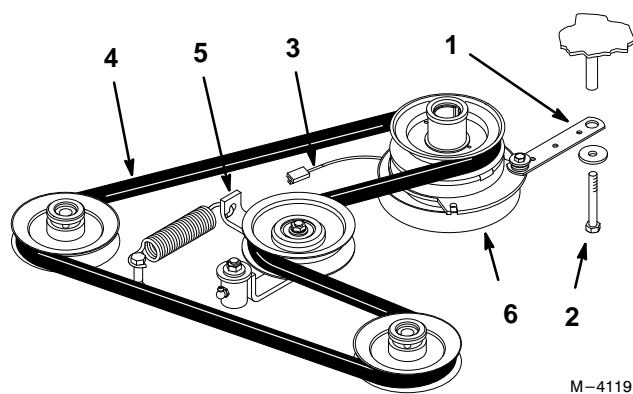

Figure 48
2. Remove bolt from clutch strap and unplug clutch electrical wire. (Fig. 48).
3. Pull spring loaded idler to side. Remove traction belt from the engine and hydro pump pulleys (Fig. 48).
4. Install new belt around engine and hydro pump pulleys (Fig. 48).
5. Pull spring loaded idler to side and align belt. Release pressure on spring loaded idler (Fig. 48).